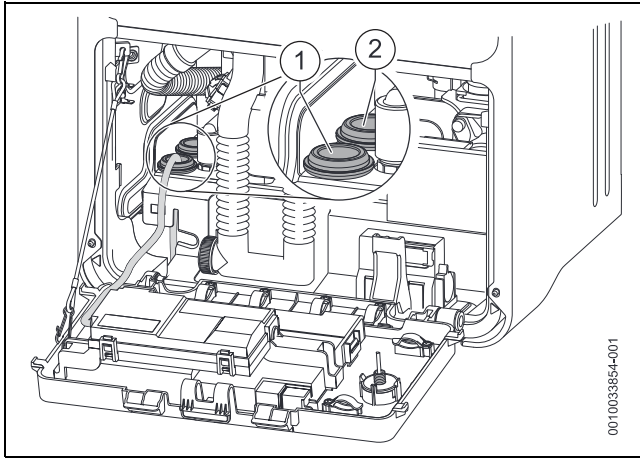

Fig. 50 Mains supply cable routing
- ▶ Mains supply cable routing must be routed through either of the rubber grommets in the frame assembly → Figure 50.